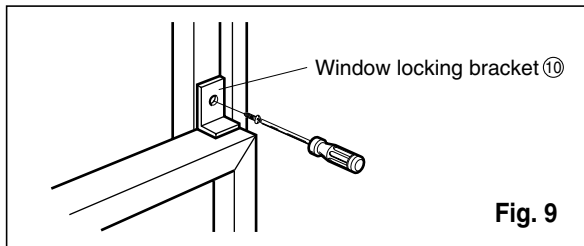

Fig. 9
12. Attach the window locking bracket ⑩ with a type C screw. (See Fig. 9)